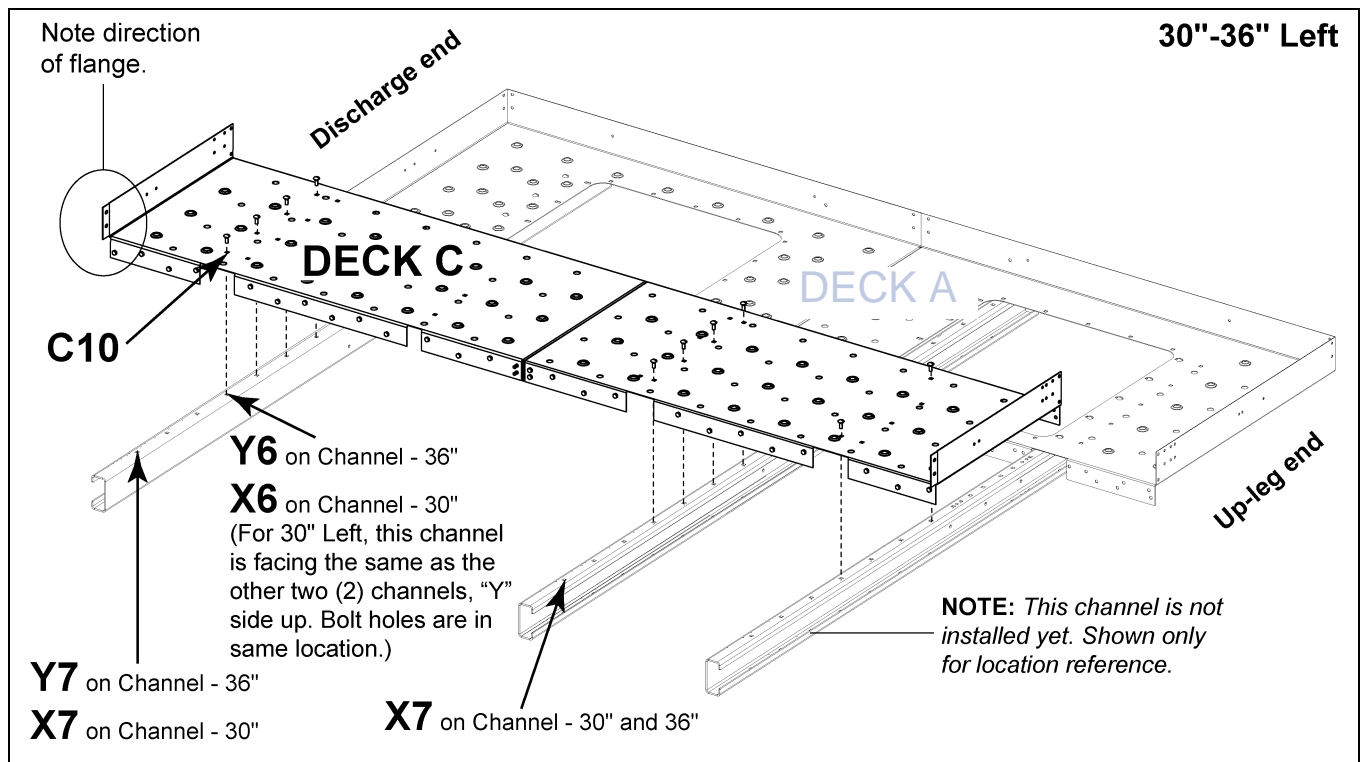
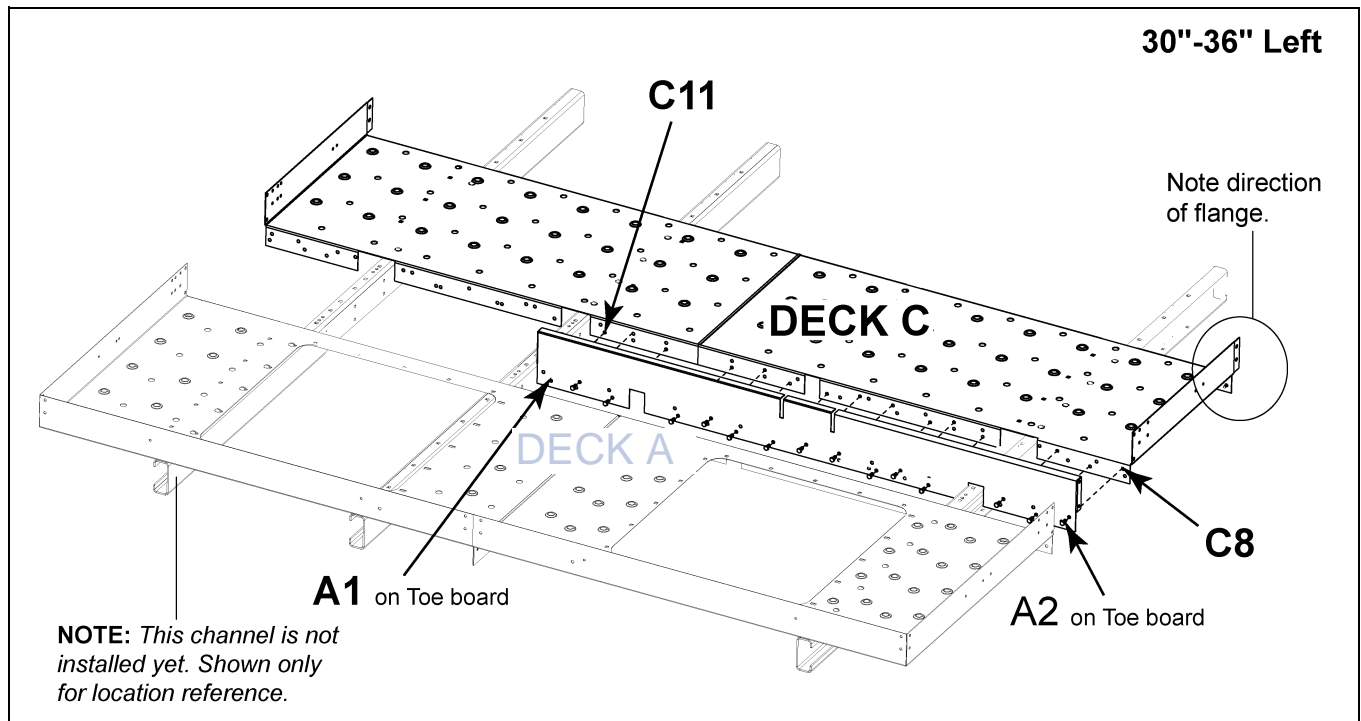

Figure 9J Deck C to Cross Deck Support Channels
Figure 9K Underside View of Deck C to Toe Board
1. Locate the pre-assembled Deck C. This deck consists of two (2) planks.
3. Make sure the extended kick plate flange of Deck C is away from the lower head assembly. (See Figure 9J and Figure 9K on Page 74.)